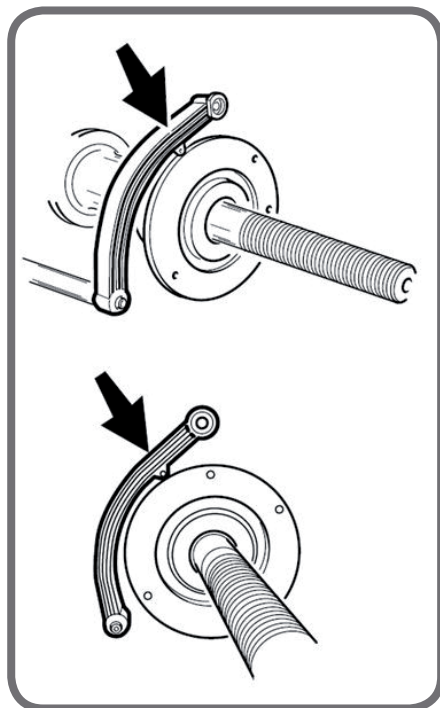

Fig. 9a
- Move the lever of the internal sensor so it rests against the swinging unit bell as shown in figure 9a;